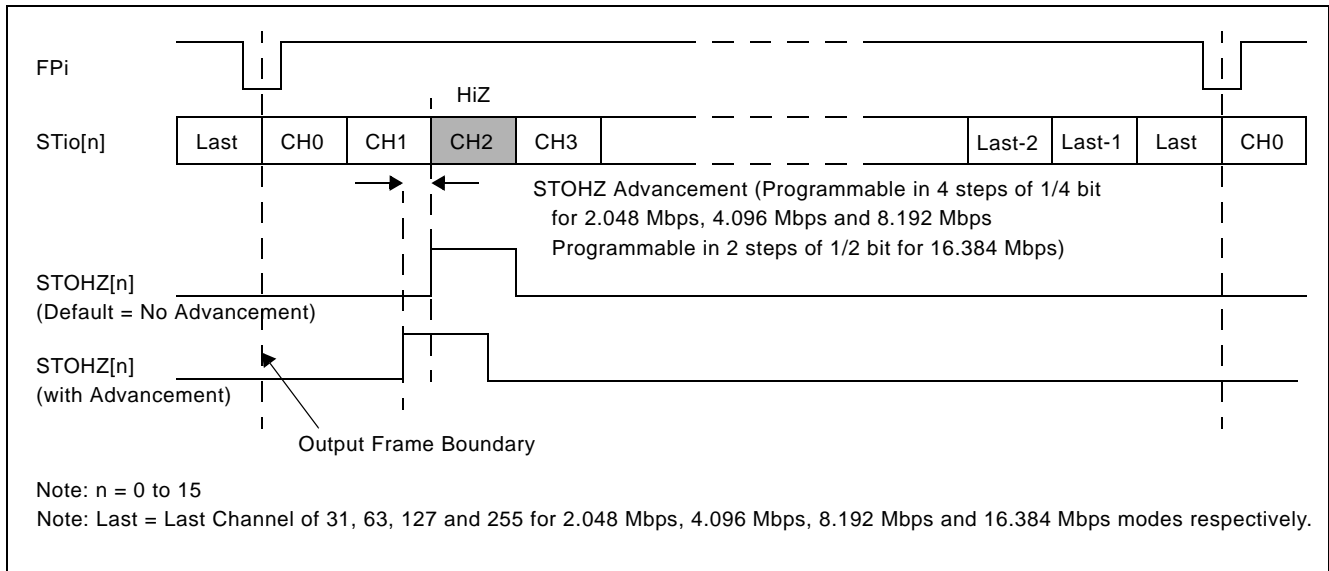

Figure 16 - Channel Switching External High Impedance Control Timing
There are 16 external high impedance control signals, STOHZ0 - 15, that are used to control the external drivers for per-channel high impedance operations. Only the first sixteen ST-BUS/GCI-Bus (STio0 - 15) outputs are provided with corresponding STOHZ signals. The STOHZ outputs deliver the appropriate number of control timeslot channels based on the output stream data rate. Each control timeslot lasts for one channel time. When the ODE pin is high and the OSB (bit 2) of the Control Register (CR) is also high, STOHZ0 - 15 are enabled. When the ODE pin, OSB (bit 2) of the Control Register (CR) or the RESET pin is low, STOHZ0 - 15 are driven high, together with all the ST-BUS/GCI-Bus outputs being tristated. Under normal operation, the corresponding STOHZ outputs of any unused ST-BUS/GCI-Bus channel (high impedance) are driven high. Refer to Figure 16 on page 28 for a diagrammatical explanation.